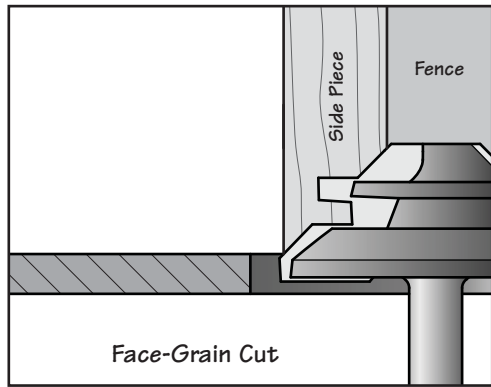

Figure 6: Face-grain cut.
- Using the trial pieces, create an end-grain and face-grain cut representing the front/back and sides of the drawer, respectively. Note that each piece is routed with the fence in the same location, as shown in **Figure 6**.